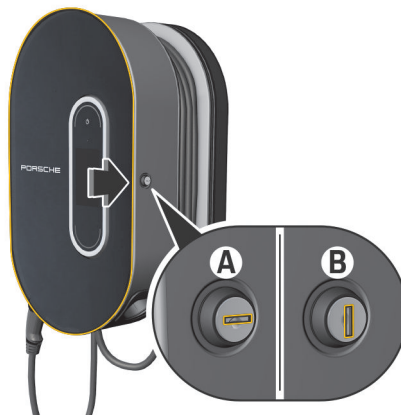

Fig. 40 Charging dock
- ▶ Turn the lock to position **A** (Fig. 40).
- ▶ Turn the lock to position **B** (Fig. 40).